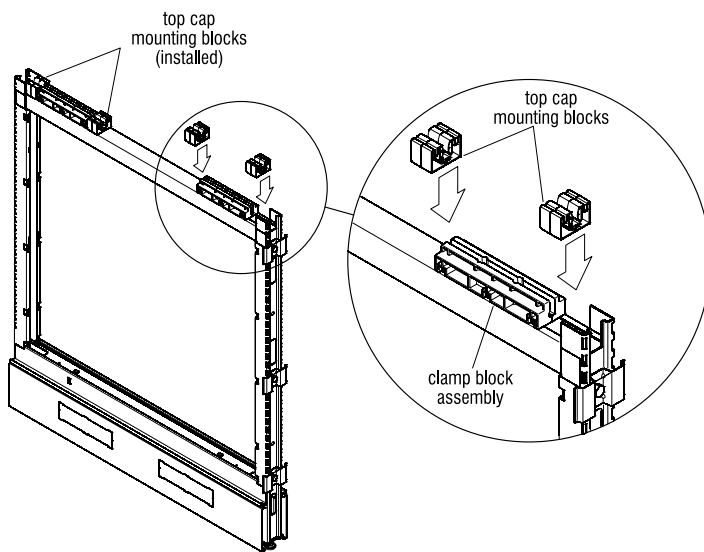

Figure 3 - Top Cap Mounting Block Install
4. Position a top cap mounting block at each end of the clamp block assembly at both clamp block assembly locations on top of the panel frame (Figure 3).